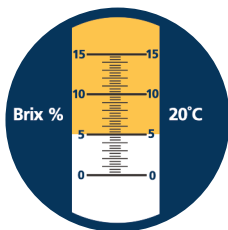

Figure 2. A typical refractometer scale
Place a few drops of water (used for the mixture) between the plastic cover (6) and the prism (7). Hold the refractometer horizontally and point it at a light source. Look into the eyepiece (1) and adjust the scale calibrating knob (4) until the boundary line which separates the light and dark areas of the scale is aligned with the zero line on the scale. Figure 2 depicts a typical refractometer scale.
A 5.0 reading on the refractometer scale, as seen in Figure 2 multiplied by the refractometer factor of 1.25 yields a 6.25 % concentration of product.